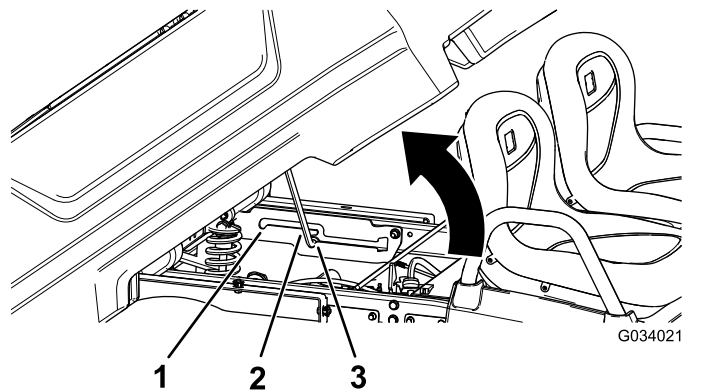

Figure 21
2. Pull the prop rod into the dump position detent slot to secure the bed for dumping (Figure 21).
2. Pull prop rod into the service position detent slot to secure the bed for maintenance (Figure 21).
2. Pull the prop rod out of the detent slot (Figure 21).